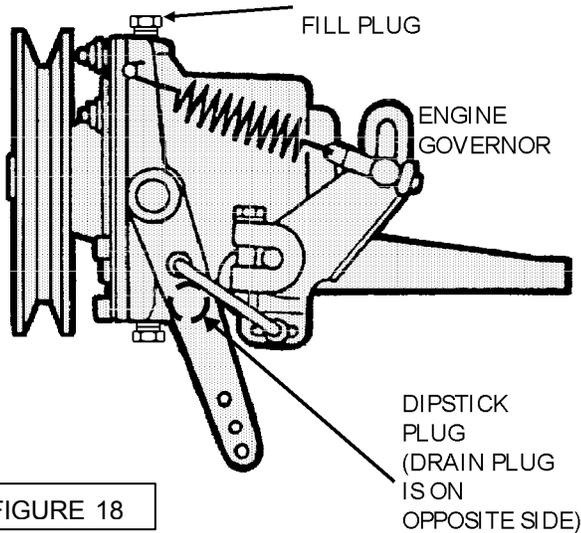

FIGURE 18
4. Check the oil level in the engine governor every **100 hours**. When empty, the governor requires approximately 1-1/2 fluid ounces of 30 weight non-detergent oil (see Figure 18).